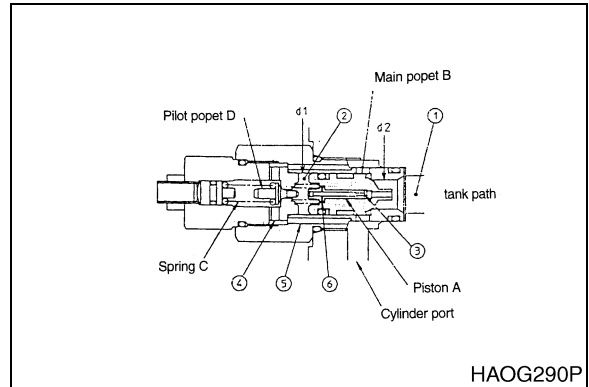

Figure 7
- A. The pressurized oil from the cylinder port enter into chamber (2, Figure 7) through orifice (3) of piston (A). Main poppet (B) is closed shut due to $d1 > d2$.
- B. When the pressurized oil overcomes the set pressure of spring (C, Figure 7) pilot poppet (D) opens and oil flows to the tank through the transverse hole (4) and path (5).